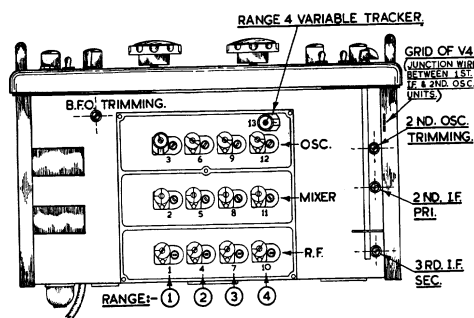

Fig. 3
Leaving the controls and connections undisturbed, the input frequency should be changed to 1620 kc/s. and the second oscillator adjusted, by moving the core in the V4 screening can (see Fig. 3), until output is maximum. Because of the slight loss in conversion, a greater input (by some 2 or 3 db) will be required to give 50 milliwatts output. The change to 85 kc/s. can be obtained with the oscillator on either the high or the low side of 1620 kc/s. and two positions of oscillator core will give output — the lower frequency position, with the core furthest in, is the correct one.
With the BFO switch at "off," a modulated signal should be applied and tuned in accurately on the receiver. The modulation is switched off, the BFO switched on and, with the pitch control at half-mesh (white spot at top), the core in the BFO unit (see Fig. 3) is set to give zero beat.
The controls remain as before but with the RF gain also turned to maximum. Should it be found necessary to correct discrepancies in the scale calibration, the output from a Crystal Frequency Standard should be applied to the aerial terminals (the calibration of most Signal Generators is not accurate enough). Adjustment is then made to the cores and trimmers appropriate to each range, in the oscillator section of the coil box (see Fig. 3). Checks and adjustments should be made at the frequencies given below, using the TRIMMER CONDENSER at the higher frequency end of the scale and the CORE at the lower frequency end. The BFO should be switched on for these tests, with the pitch control at "12 o'clock." The
*Accessible under the chassis (see Fig. 3).
ceramic tracker condenser shown in Fig. 3 has been very carefully adjusted for proper tracking on Range 4 and it is not advisable to touch it.